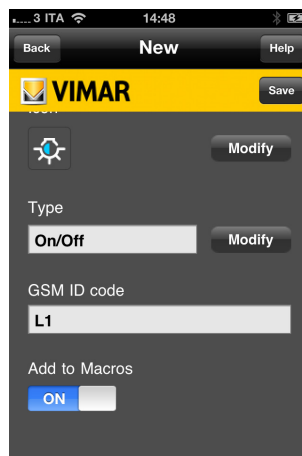

Figure 5
- **Type:** Device type. The type can be modified using the **Modify** key which displays the **Type Manager** screen (figure 5).